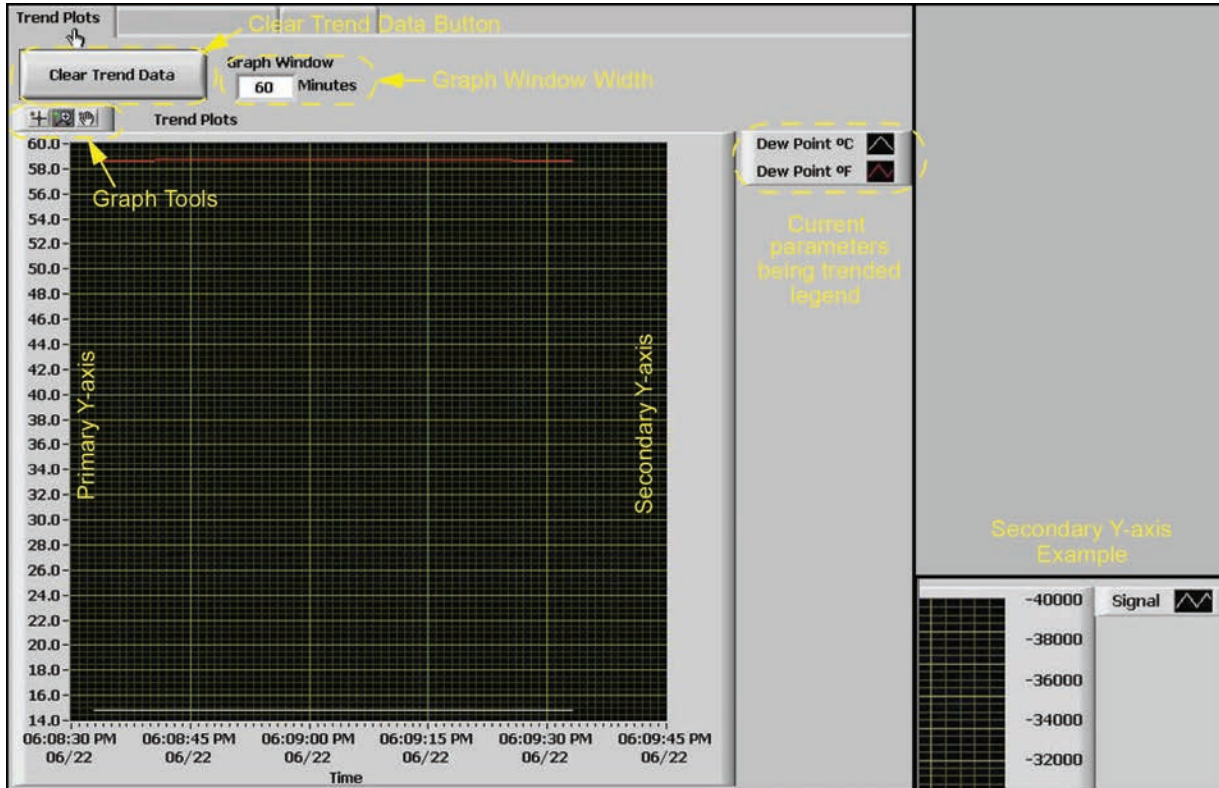

Figure 68: Using trend plots
1. Trend plots is a powerful graphing feature in **AuroraView**. You can graph many parameters at the same time (see *Figure 68* below).